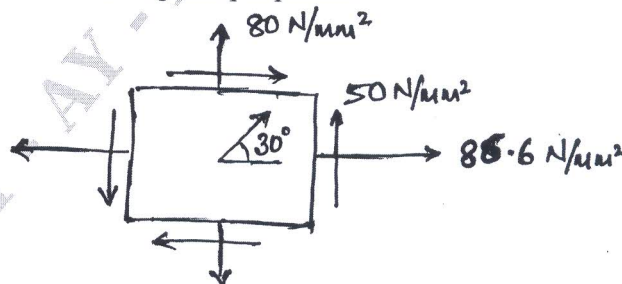

Fig.Q3(c)
- At a point in a strained material, the state of stress is shown in Fig.Q3(c). Determine principal stress and orientation of principal planes. (10 Marks)